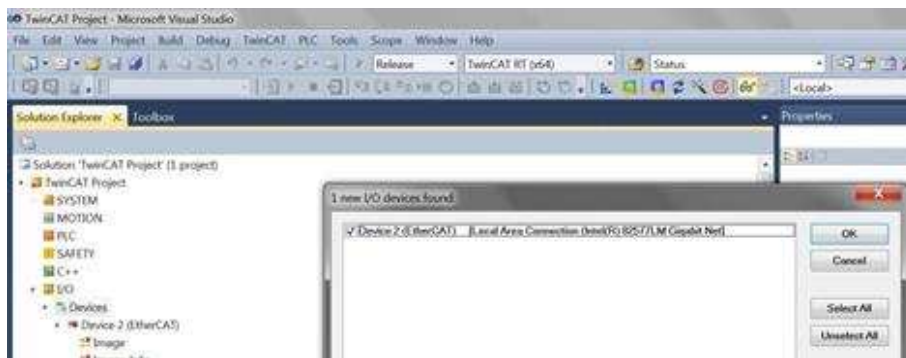

Figure 20. TwinCAT3 Discovery of Ethernet Adapter
- (a) A popup indicating TwinCAT has found the adapter that should appear (see Figure 20).